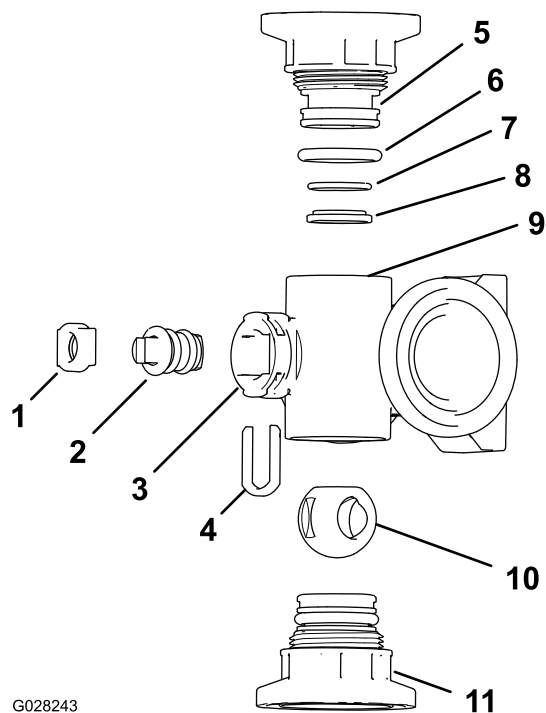

Figure 58
2. Remove the 2 endcap fitting assembly from each end of the manifold body (Figure 58 and Figure 59).
- Remove the stem retainer from the slots in the stem port in the manifold (Figure 58 and Figure 59).
- Remove the stem retainer and valve stem seat from the manifold (Figure 58 and Figure 59).
- Reach into the manifold body and remove the valve stem assembly (Figure 58 and Figure 59).
- Check the condition of the outlet fitting O-rings (section valve manifold only), endcap O-rings, back seating O-rings, ball seat for damage or wear (Figure 58 and Figure 59).
- Apply grease to the valve stem and insert it into the valve stem seat (Figure 58 and Figure 59).
- Install the valve stem and seat into the manifold and secure the stem and seat with the stem retainer (Figure 58 and Figure 59).
- Ensure that the back seating O-ring and the ball seat are aligned and seated into the endcap fitting (Figure 58 and Figure 59).
- Install the endcap fitting assembly onto the manifold body until the flange of the endcap fitting touches the manifold body (Figure 58 and Figure 59), then turn the endcap fitting an additional 1/8 to 1/4 turn; torque the fitting to 225 to 282 N-cm (20 to 25 in-lbs).